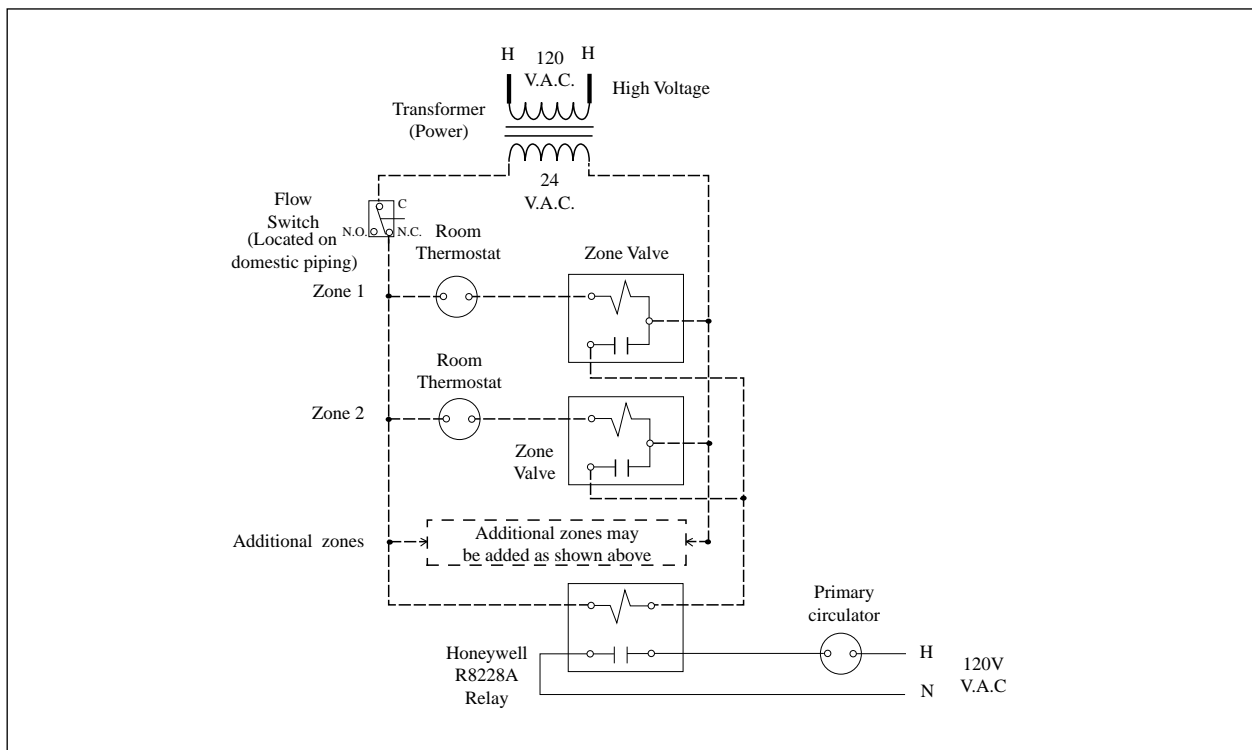

Fig. 19: Multiple zone field wiring for space heating using zone valves with domestic priority
- For field wiring using zone valves with domestic priority see Fig.: 19.